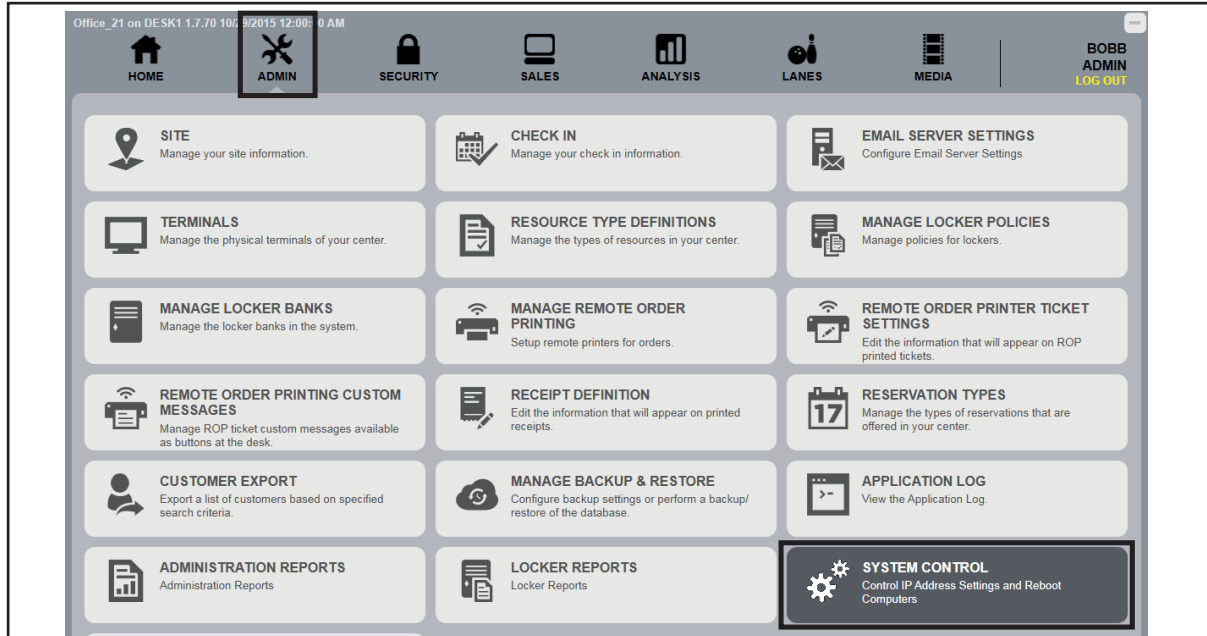

Figure 26. Sync Desk - Admin - System Control
- a. Click OK to return back to the Lanes page on the Sync Office application. Select Admin, then system control. Refer to *Figure 26*.